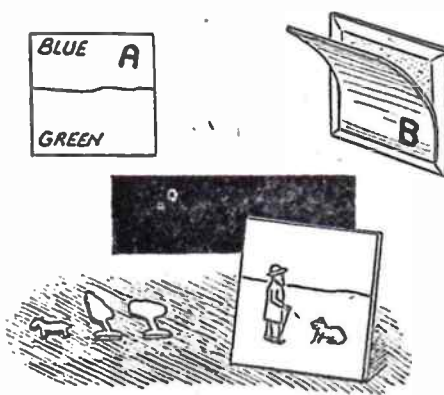
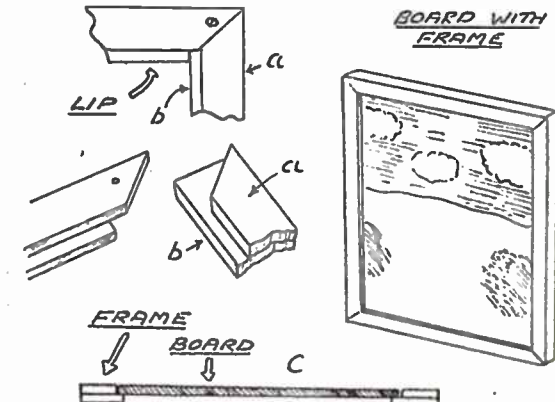

Fig. 1
Fig. 2
Needed also is a square of flannel larger than the card or board. This is prepared with a blue and green dye. In the simplest background as (A) Fig. 1, just dip first one half then the other. To put in clouds, etc. (Fig. 2), stretch the flannel on some flat surface with drawing pins and apply the dye with a large brush, leaving the material untouched (if white) where you wish clouds to be.
To prevent any danger of the board warping and to give a finished appearance, the background can be supplied with a simple frame. This is easiest done by making up each side with two strips (a) and (b) Fig. 2, the one rather